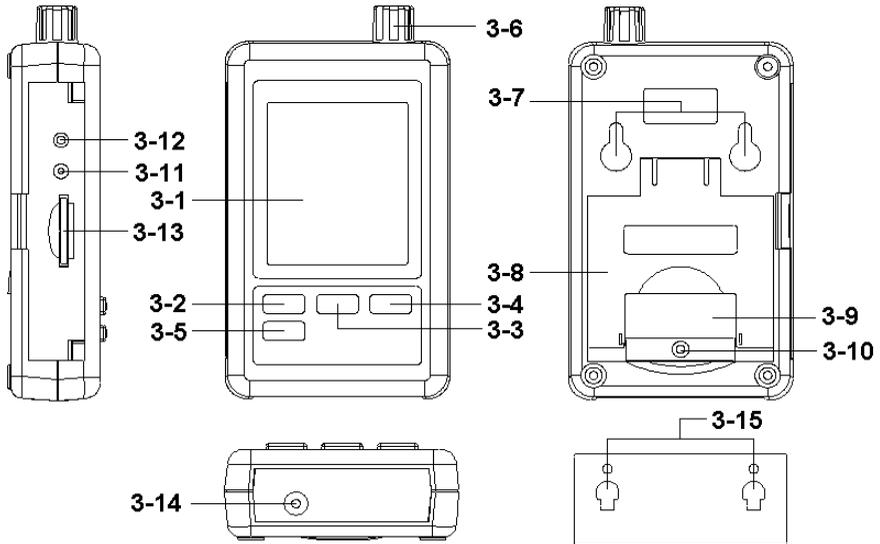

Fig. 1
- * Loose the " Screw of the battery cover " (3-10, Fig. 1) and take away the " Battery Cover " (3-9, Fig. 1) from the meter.
- 2) The " Display " (3-1, Fig. 1) will show both the humidity and the temperature value that sensing from Humidity/Temp. sensor " (3-6, Fig. 1).
Prepare a " SD memory card " (1 GB to 16 GB, optional), insert the SD card into the " SD card socket " (3-13, Fig. 1) with the correct direction exactly.
Press the " Logger button (3-2, Fig. 1) > 2 seconds continuously, until the Display show the indicator " DATALOGGER ", release the " Logger Button " (3-2, Fig. 1), then the measuring data along the time information will be saved into the memory circuit.
During execute the Datalogger function (Display show the " Datalogger " indicator), press the " Logger button " (3-2, Fig. 1) > 2 seconds continuously, until the Display indicator " DATALOGGER " is disappeared, release the " Logger Button " will finish the Datalogger function.
Press " Time button " (3-3, Fig. 1) > 2 seconds continuously, the LCD display will present the time information of Year/Month/Date, Hour/Minute/Second and the sampling value.
- 1) After execute the Data Logger function, take away the SD card out from the " SD card socket " (3-13, Fig. 1).
Under do not execute the Datalogger function, press the " SET button " (3-5, Fig. 1) > 2 seconds continuously will enter the " Setting " mode., then release the " SET button ". Following press the " SET button " (3-5, Fig. 1) once a while in sequence to select the seven main function, the display will show :